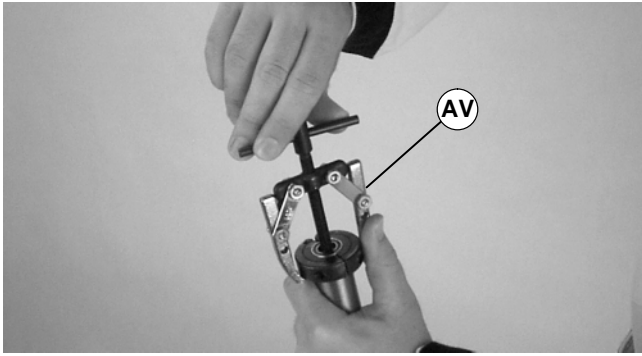

Figure 37
- Using a puller (AV of Figure 37), remove and discard bearing(s).